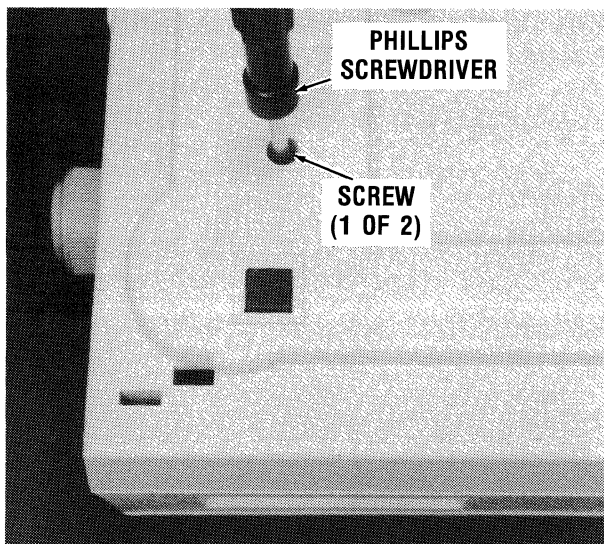

Figure 1-1 Remove Bottom Screws (2)
4. Refer to Figure 1-1. Remove (2) phillips-head screws from the bottom front of the printer. These are shipping screws. The printer runs quieter with these screws removed.